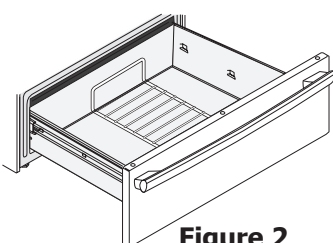

Figure 2
- In the **downward position** (Figure 2) to allow you to place light weight food items and empty dishware (for example, rolls or pastries and dinner plates) on the rack.